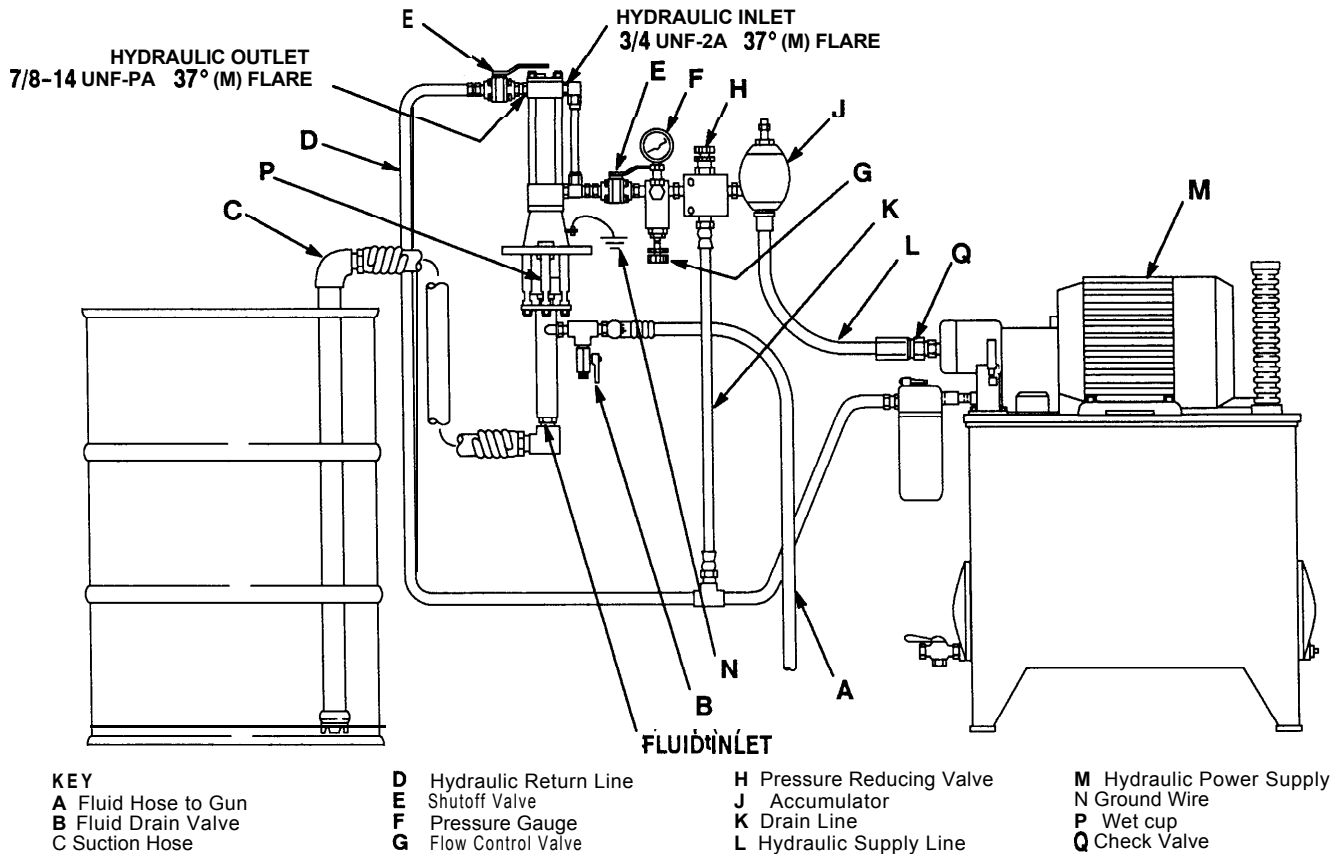

Fig 2
To reduce the risk of serious bodily injury, including fluid injection, your system must include a drain valve installed near the pump fluid outlet to help relieve fluid pressure in the displacement pump and hoses when shutting off the pump. See Fig 2.
Install a fluid drain valve (B) and a grounded dispense hose (A) to the 3/8 npt fluid outlet on the displacement pump. Connect a suction hose to the 3/4 npt pump fluid intake. See Fig 2.